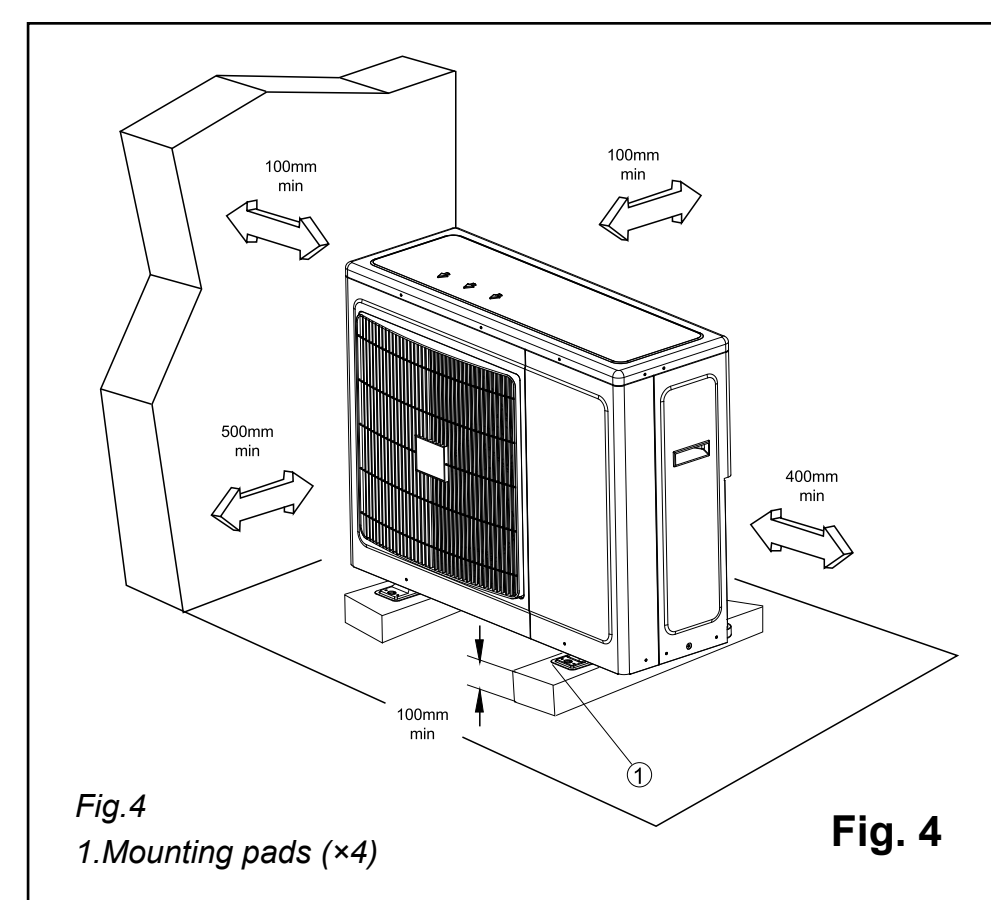

Fig. 4
- The location must allow easy servicing and provide good air circulation as shown in fig 4.